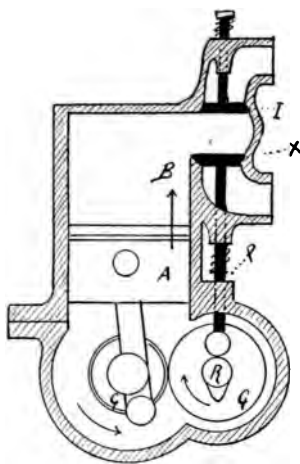

Fig. 6
At the bottom of this first stroke, as shown in Fig. 6 the inlet-valve (I) closes, and the exhaust-valve (X) also being closed, there is no chance for the charge of gas to